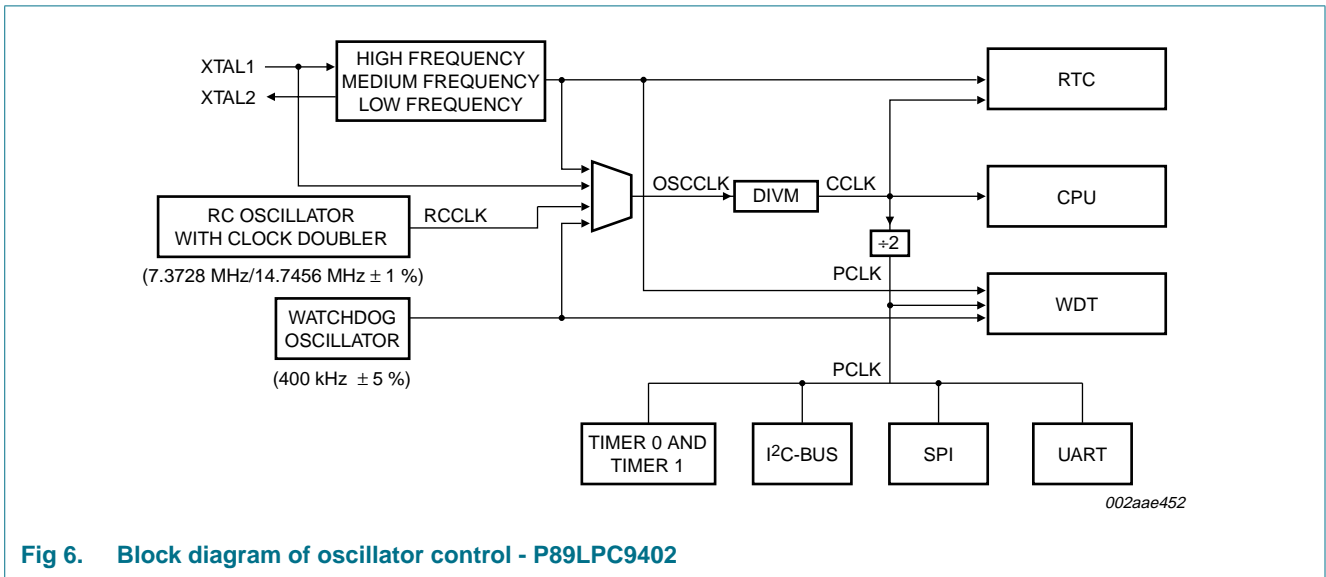

Fig 6. Block diagram of oscillator control - P89LPC9402
**OSCCLK** — Input to the DIVM clock divider. OSCCLK is selected from one of four clock sources (see Figure 6) and can also be optionally divided to a slower frequency (see Section 7.9 “CCLK modification: DIVM register”).